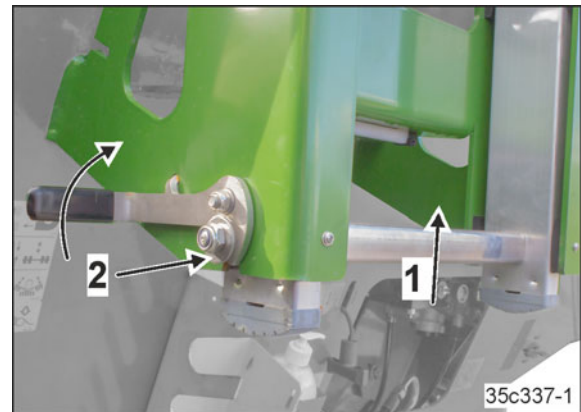

Fig. 230
1. Push the ladder up (Fig. 230/1).
2. Ensure that the spring-loaded locking device engages (Fig. 230/2).